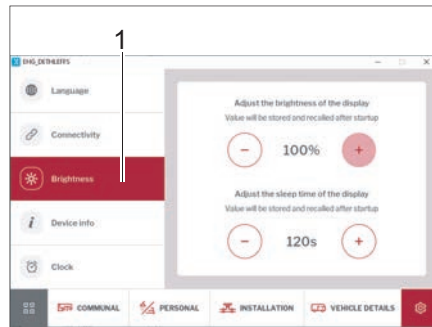

Fig. 268 Brightness
- Click on the *Brightness* (Fig. 268,1) button.